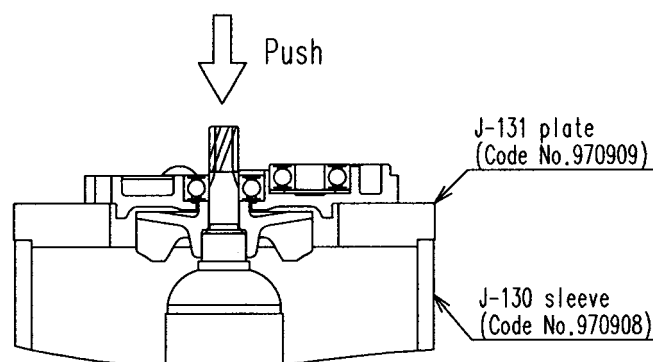

Fig. 5
Remove the three Tapping Screws D4 x 25 (Black) [7] <7> from Gear Cover Ass'y (B) [8] <8>, and remove Inner Cover Ass'y (A) [23] <23> with Armature (D) [24] <24> from the Housing [39] <37>. And as illustrated in Fig. 5, Inner Cover Ass'y (A) [23] <23> can be removed from Armature (D) [24] <24> by utilizing a J-130 sleeve (special repair tool, Code No. 970908) and a J-131 plate (special repair tool, Code No. 970909).
- (1) Remove Gear Cover Ass'y (B) [8] <8> and Inner Cover Ass'y (A) [23] <23>, then Socket (B) Ass'y [11] <11>, Gear Ass'y [13] <13> and Second Pinion Ass'y [16] <16> can be removed. If the Gear Ass'y [13] <13> is hard to remove, lightly tap the end surface of Inner Cover Ass'y (A) [23] <23> with a wood hammer. If the Second Pinion Ass'y [16] <16> is hard to remove, lightly tap the end surface of Gear Cover Ass'y (B) [8] <8> with a wood hammer. Be careful not to lose the Spring [12] <12> on the outer circumference of the Gear Shaft [14] <14> and Washer [18] <18> on the outer circumference of the Second Pinion Ass'y [16] <16>.
As shown in Fig. 5, insert two flat-blade screwdrivers between Inner Cover Ass'y (A) [23] <23> and Gear Ass'y [13] <13> at each side and remove the Gear Ass'y [13] <13>, Gear Shaft [14] <14> and Ball Bearing 608VVC2PS2L [15] <15> from Inner Cover Ass'y (A) [23] <23> as a single unit.